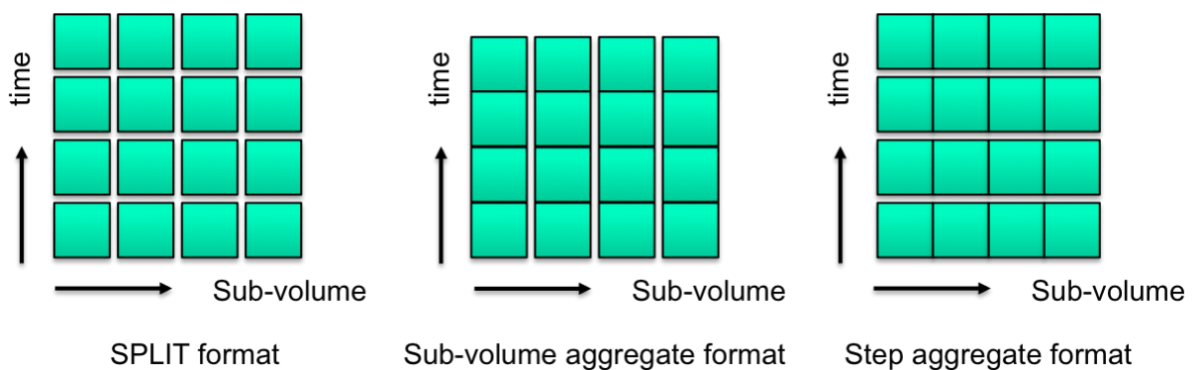

Figure3.3-1 Output file formats available for PBVR Filter
This section describes the file formats that are read or written by PBVR Filter. All binary data in input and output files are single precision, without a header or footer, and in little endian format. The following three file formats are available: (1) the split format (which actually make use of kvsml format), (2) the sub-volume aggregate format, and (3) the step aggregate format (Figure3.3-1). The split format generates independent files for each time step for each sub-volume. However, in this format, the number of files grows exponentially as the number of layers in the octree increases. This problem can be avoided by using either of the other two file formats. The sub-volume aggregate format aggregates files over different time steps (but for the same sub-volume) to a single file. Conversely, the step aggregate format aggregates files over different sub-volumes (for the same time step) to a single file. The following sections explain these three file formats in detail.